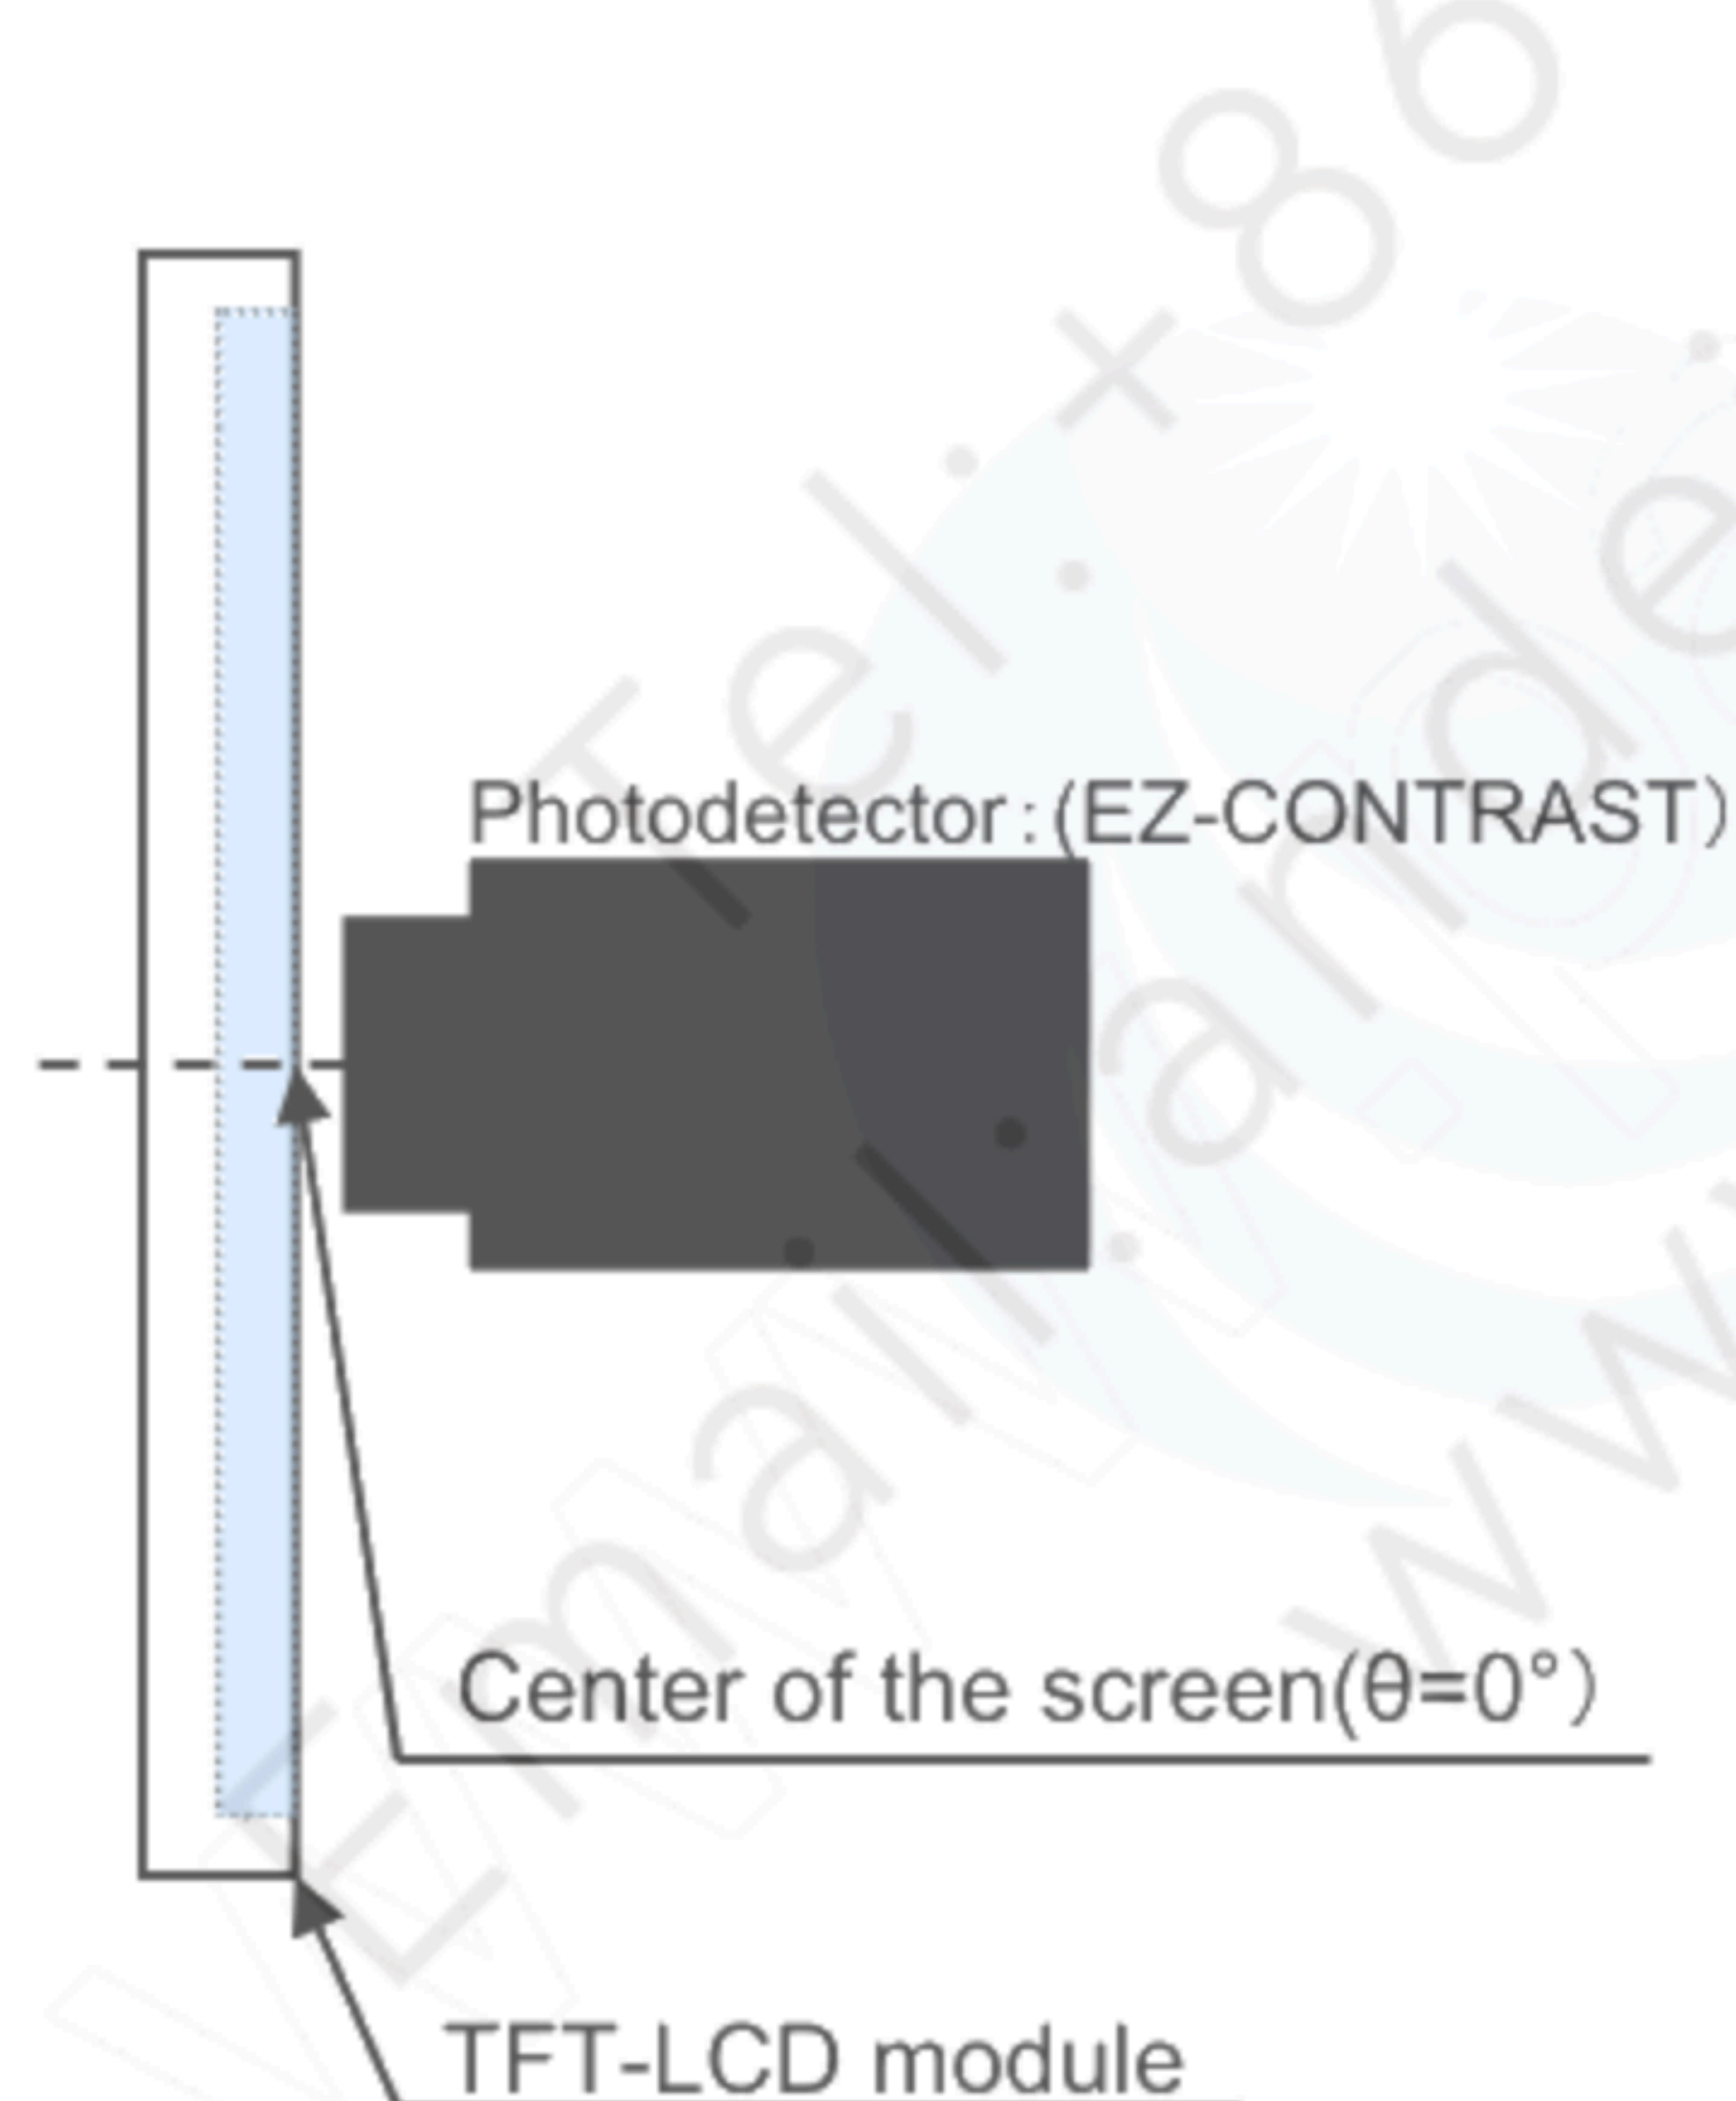

Fig.9-1 Viewing angle range
* The optical characteristics measurements are operated under a stable luminescence (ILED = 20mA) and a dark condition. (Refer to Fig.9-1 and Fig.9-2)